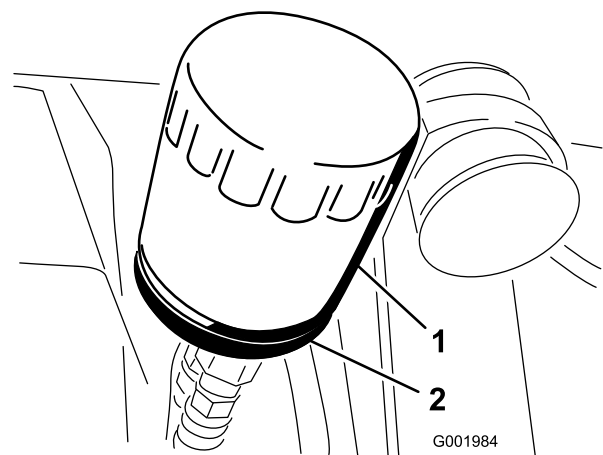

Figure 48
2. Remove the oil filter (Figure 48).
contacts the filter adapter, then tighten the filter an additional 1/2 turn (Figure 48).